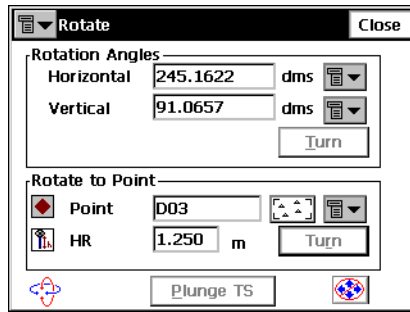

Figure 6-33. Rotate
3. Tap the **Turn** button and enter the rotation angles in the *Rotate* screen (Figure 6-33 on page 6-30).